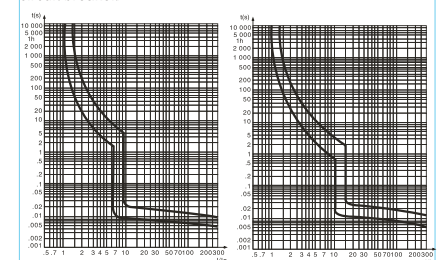

Figure 1: C type tripping curve
- See figure 1 and 2 for protection characteristics curve of the circuit breaker.